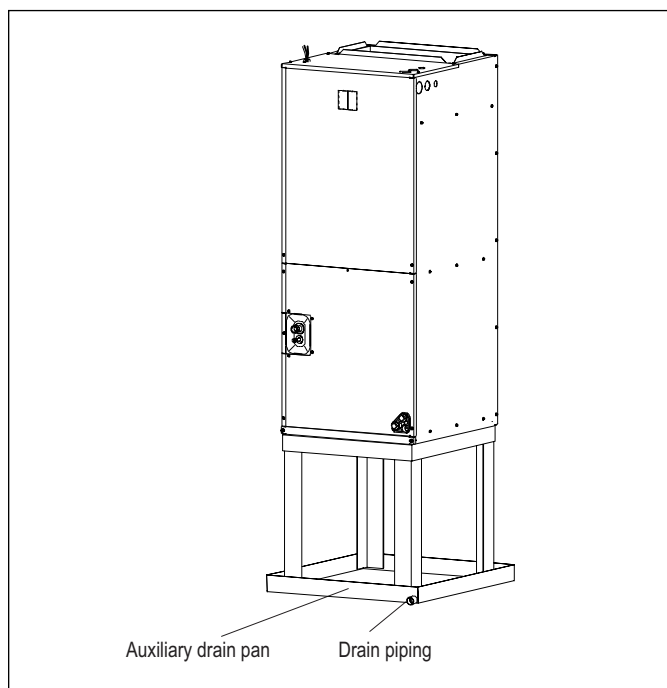
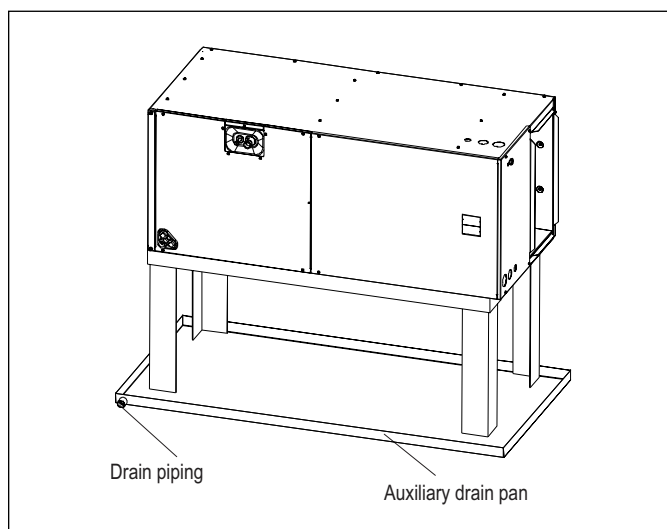
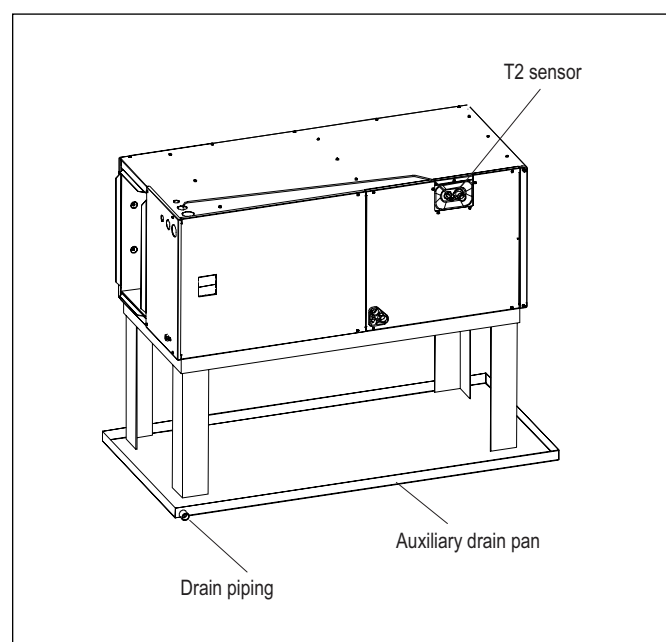
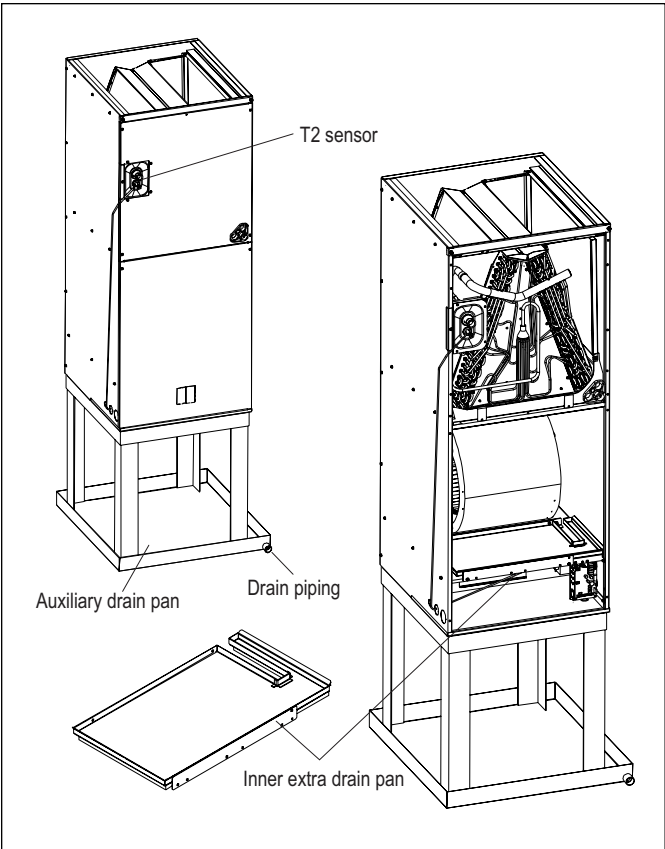

Figure 3 Installed vertical upflow
Figure 4 Installed horizontal right
Figure 5 Installed horizontal left
Figure 6 Installed vertical downflow
Condensation may come from the surface of the insulation. Be sure to use insulation that is designed for use with HVAC Systems. Condensation may be produced on surface during cooling operation. It is also recommended to use auxiliary drain pan and secure the unit firmly to prevent it from falling. See Figure 3, Figure 4, Figure 5 & Figure 6.
- Vertical Upflow configuration is the factory default on all models (see Figure 3).